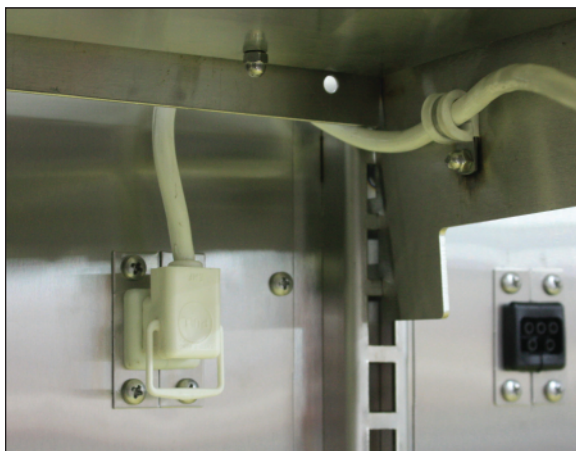

Fig. 4 T-8 light power cord (WHITE)
1. Unplug the white T-8 lamp power cords located at the inside-back of the case below the lamp being replaced (Fig. 4).